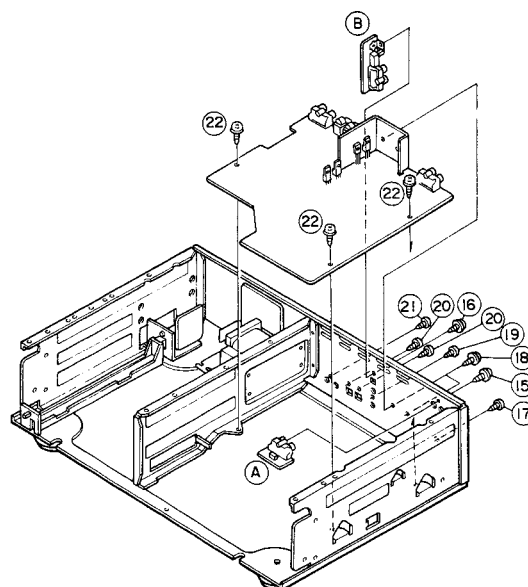
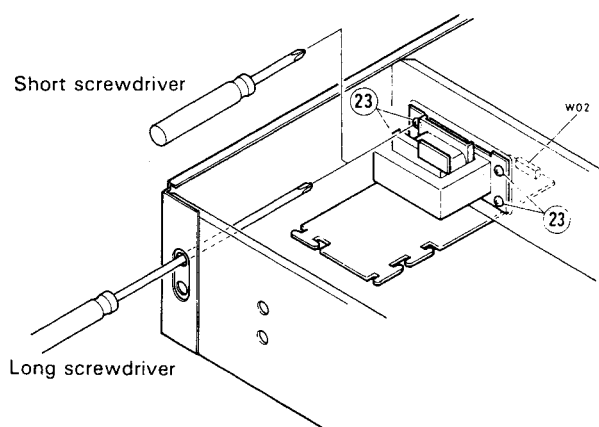

Fig. 2-5
Fig. 2-6
■ Jack Board (A, B) Assembly: See Fig. 2-5
■ Main Board Assembly: See Fig. 2-5
1. Remove the 7 screws (17), (18), (19), (20) and (21) attaching the jack and heat-sink to the rear panel.
2. Remove the 3 screws (22) attaching the center main board to the center chassis and the left chassis.
■ Power Supply Transformer: See Fig. 2-6